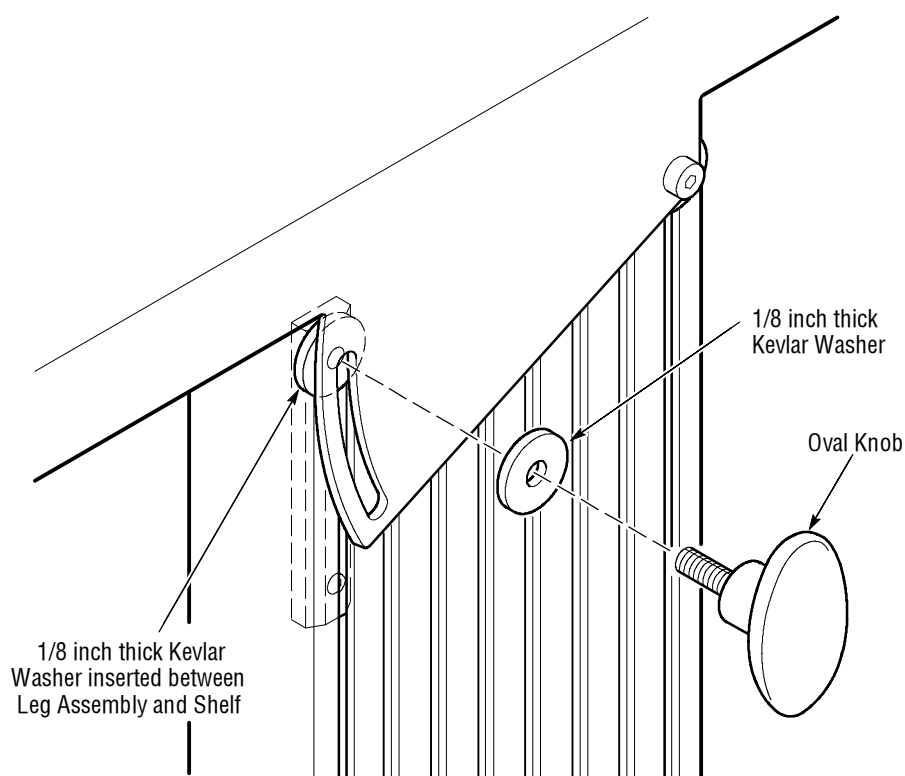

Figure 14: Installation of Tilt Shelf Knobs
6. Place a Kevlar washer on the stud of each oval knob. On each side of the tilt shelf, hold an additional Kevlar washer between the shelf and the leg assembly and pass the stud of the oval knob through the shelf slot, the additional washer, and into the top hole of the long rail. Figure 14 shows this in detail.